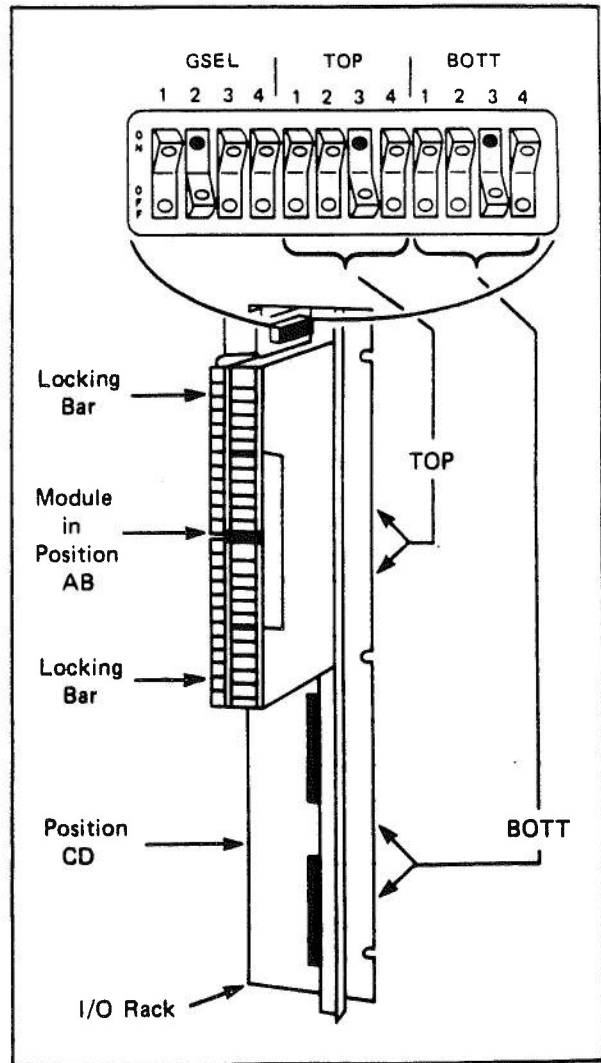

Figure 5 — Vertical I/O Rack Switches
Step 2 — Refer to system drawings and determine in which I/O Rack and in which Position in the Rack the Module is to be placed. (Although a Module can be placed in either the upper two Positions or the lower two Positions, it may not straddle Positions B and C. (See Figure 5.)
Step 4 — Move the appropriate Locking Bars on the I/O Rack's built-in terminal blocks to the left in order to uncover the guide slots on the blocks. (See Figures 5 and 12).